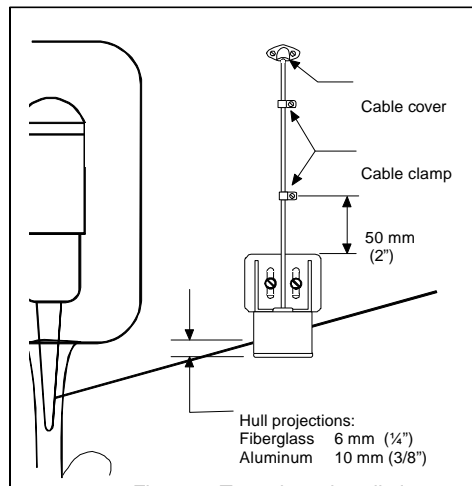

Figure 4. Transducer installation
3. Apply a marine sealant to the two screws to prevent water seepage into the transom. Screw the bracket to the hull. Using the vertical adjustment space available on the bracket slots, slide the transducer up or down to provide a 6 mm (1/4") projection on fibreglas boats or a 10 mm (3/8") projection on aluminium boats (see Figure 4).
3. On the outside of the hull secure the cable on the transom using the cable clamps and cable cover (see Figure 4).